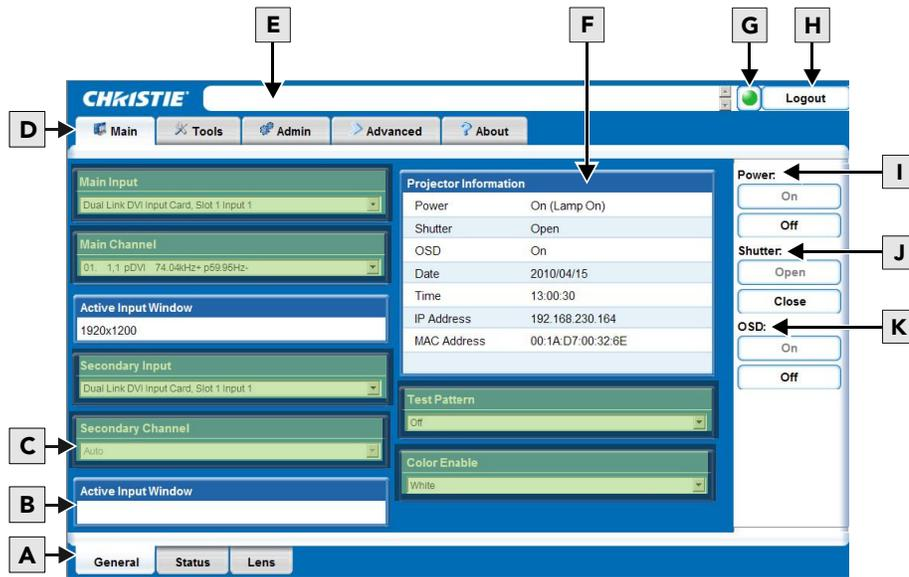

Figure B-3 Main window
3. Click the **Login** button. The **Main** window (see **Figure B-3**) appears.
The following table describes each area found in the Main window. See **Figure B-3**.
Under the **Main** tab, select the **General** secondary tab to view general information about Inputs, Channels, Projector Information, Test Pattern, and Color Enable (see **Figure B-3**). For detailed information refer to Section 3 Operation.